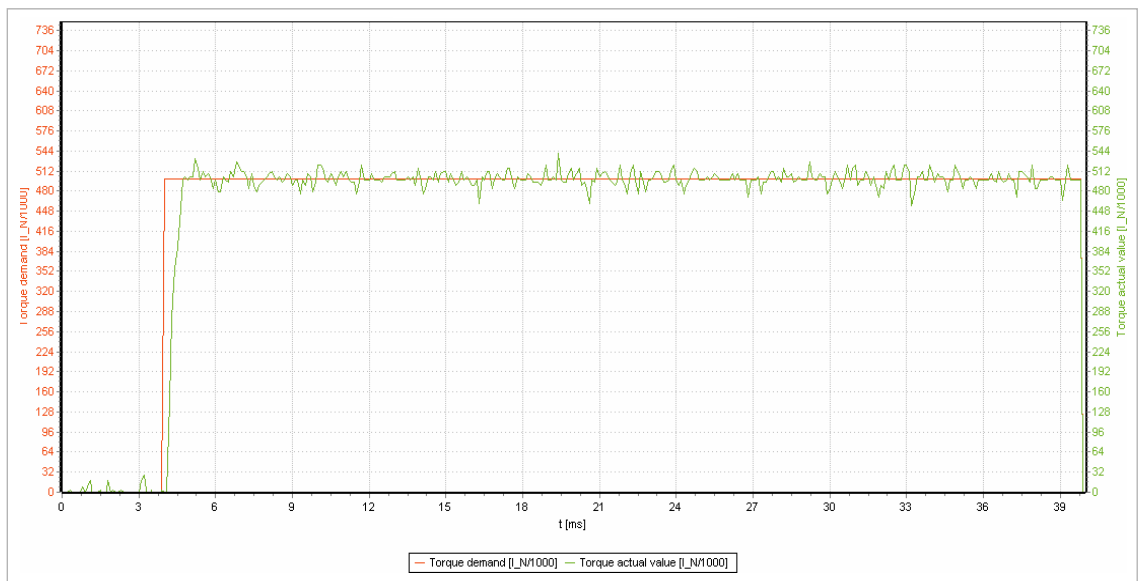

Fig. 8: Set-point jump at the torque control
- i** For manual optimization of the current controller, apply set-point jumps to the current controller with the motor braked to a standstill, and adjust the two controller gains  $K_{P,I}$  for torque and field controller via objects 0x2342.01 and 0x2343.01 in a similar manner (see Fig. 8).